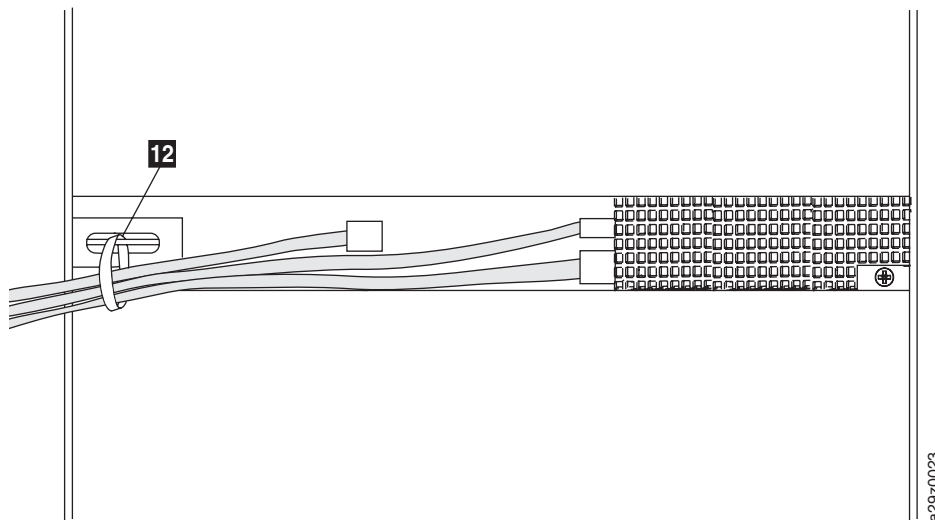

Figure 8-23. The cables at the rear of the library
8. Run the SAS cable, power cable, and Ethernet cable through the hook and loop fastener strap **12**, then tighten the strap (Figure 8-23).